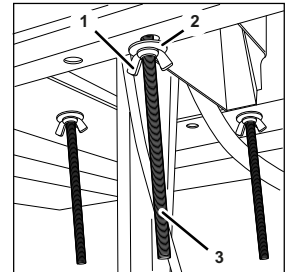

Fig. 6
5. Attach the unit to the supporting structure using threaded bolts (Fig. 6/3), wing nuts (Fig. 6/1) and washers (Fig. 6/2), and tighten the wing nuts evenly. Check that the unit is properly attached. After attachment, the unit must not tilt or overturn.